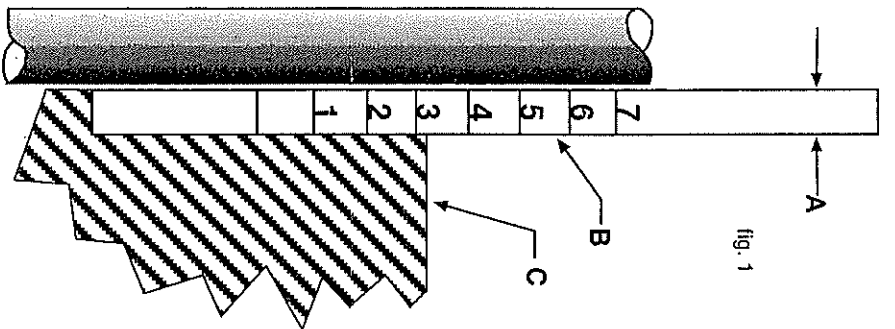

fig. 1
2. Select a properly sized QuickSet. Use the color coded QuickRule for cross sectional reference (A). Insert the QuickRule into the stuffing box until it seats against the supporting surface (see fig. 1). Each number on the QuickRule represents one bushing ring. To determine the number of QuickBushings required to fill the box, read the scale (B) at the face of the stuffing box (C). Should the reading fall between increments, round down to the nearest increment (Example in fig. 1 would require 3 QuickBushings).